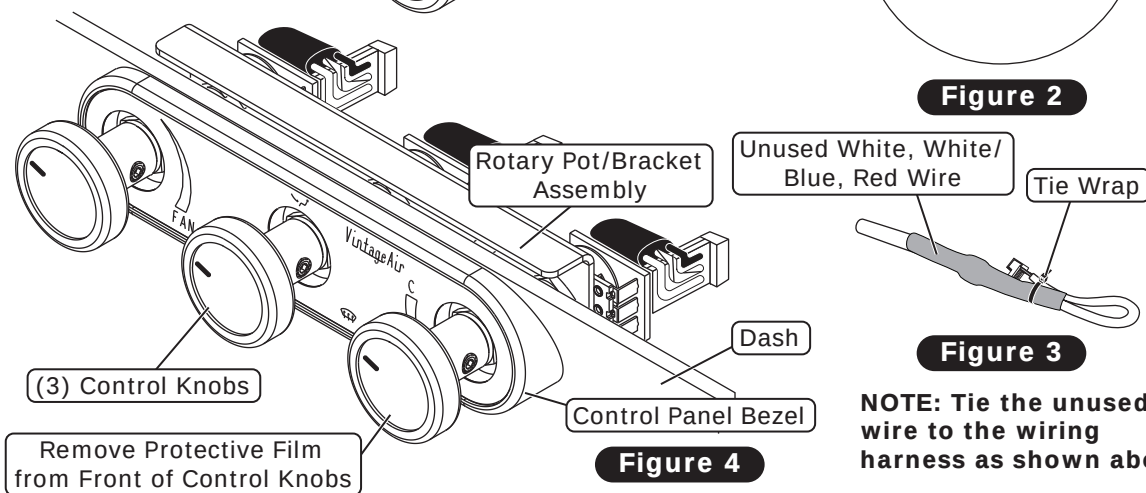

Figure 4
7. Install the rotary pot/bracket assembly of the control panel from behind the dash, and reinstall the control panel bezel, jam nuts, and control knobs on the front of the dash (See Figure 4, below).